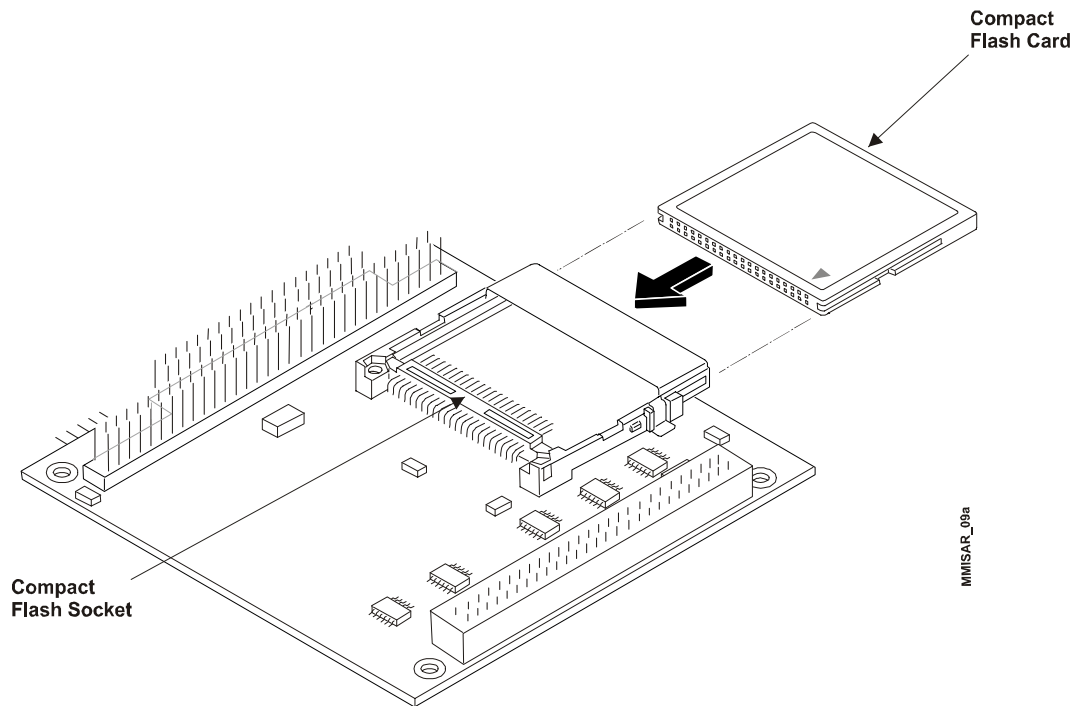

Figure 3-1. Installing the Compact Flash Card
4. Turn the MiniModule ISA over to access the bottom of the board and lay it on a flat anti-static surface. See Figure 3-1.
7. Insert the Compact Flash card into the socket provided by the tabs on the protective cover as shown in Figure 3-1.